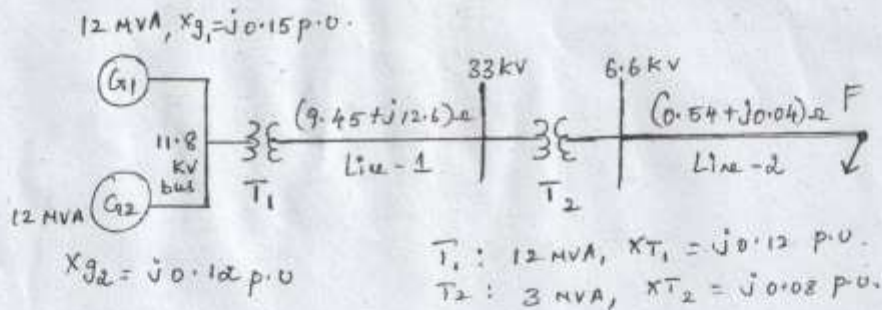

Fig. 13(a)
13. (a) For the radial network shown in Fig. 13(a) 3 $\Phi$  fault occurs at point F. Determine the fault current and the line voltage at 11.8 kV bus under fault condition.